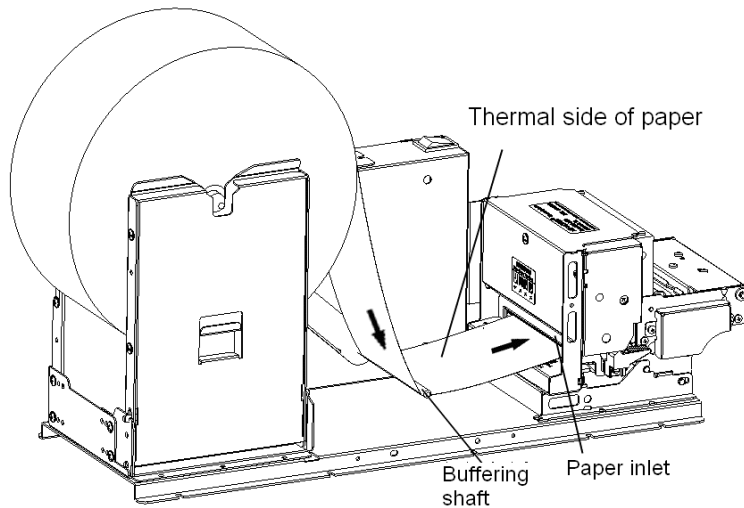

Fig.4.6-4 Semi-automatic paper load
- Shown as in Fig.4.6-4, let the paper head around the buffer shaft and put it on the incline outside of paper inlet, then press the paper head and push it into the paper inlet slightly according to the arrow for certain distance. When the platen starts to turn and hold the paper, release your hand;